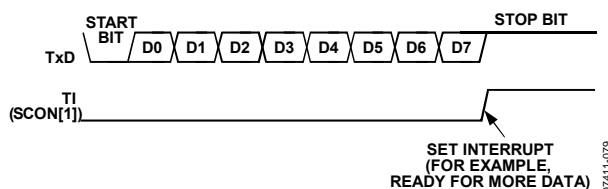

Figure 105. 8-Bit Variable Baud Rate
Transmission is initiated by a write to the serial port buffer SFR (SBUF, Address 0x99). Next, a stop bit (1) is loaded into the ninth bit position of the internal serial port shift register. The data is output bit by bit until the stop bit appears on the TxD pin and the transmit interrupt flag, TI (Address 0x98[1]), is automatically set, as shown in Figure 105.